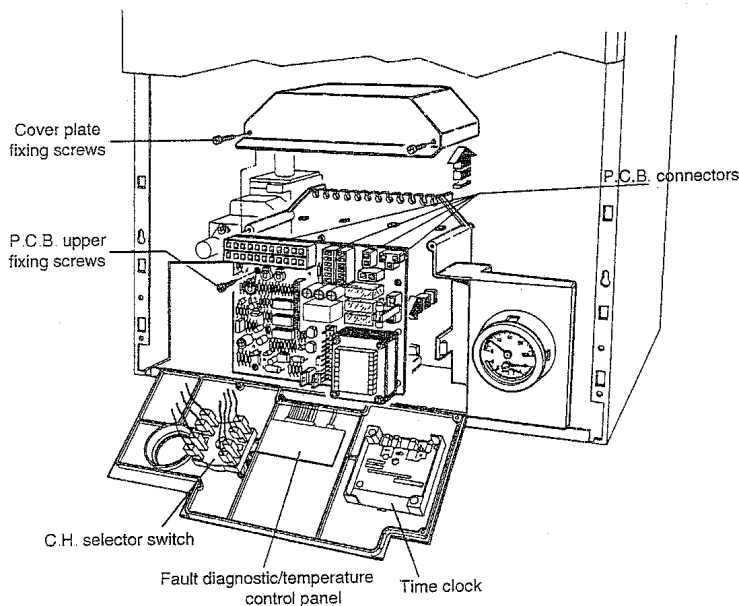

Fig. 39
- b) Unscrew two fixing screws on the P.C.B. top cover plate, lift and disconnect all connectors from P.C.B. (fig. 39)